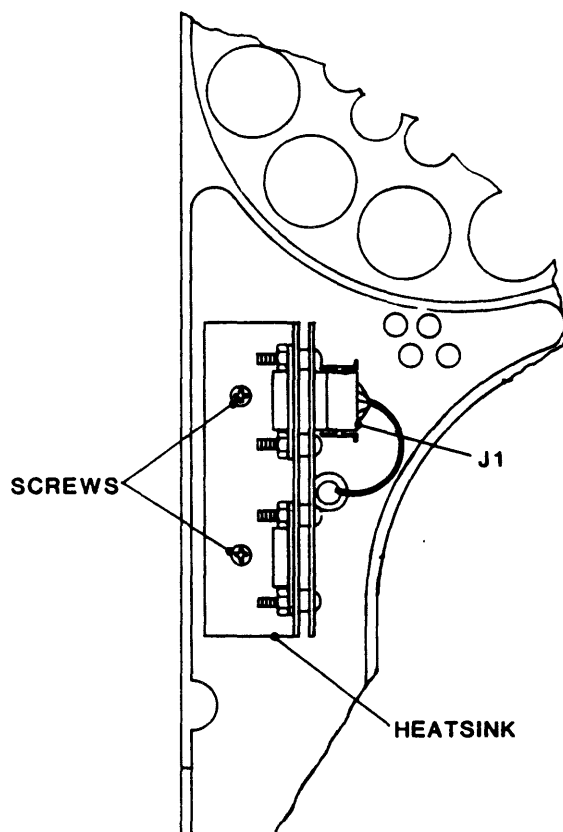

Figure 4-14 12 VDC Regulator Power Supply
4.3.15 12 VDC REGULATOR ASSEMBLY (Fig. 4-14)